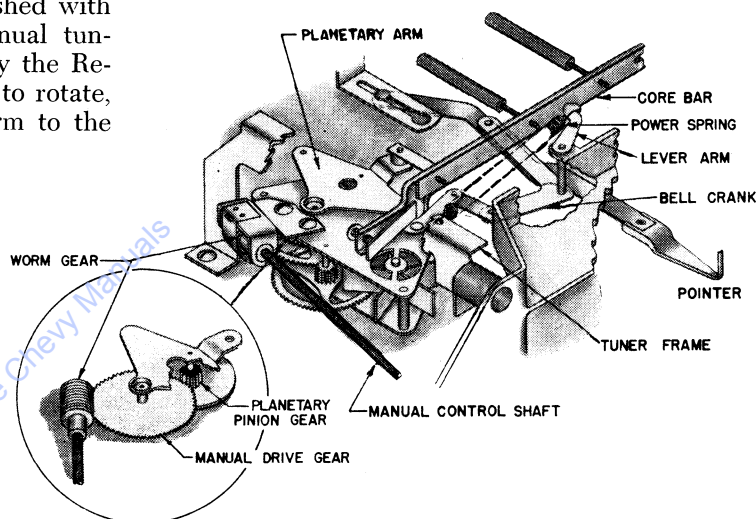

Fig. 5
## Section 3—Manual Tuning Gear Operation (See Fig. 5)
## Section 4—Pointer and Core Bar Linkage (See Fig. 5)
The Ratchet Pawl and Wheel are used so that the Solenoid can cock the power springs without running the entire gear train in the reverse direction during the return sweep. Notice that the Ratchet also is used when the dial pointer has reached the high end of the band while tuning manually. When the Planetary Arm has reached the end of its tuning arc, the planetary pinion tends to be rotated by the Manual Drive Gear (see Fig. 5) and this turns the Ratchet Wheel out of the Pawl and allows the pinion gear to turn freely without exerting further force on the Planetary
- D. Spring loaded dial pointer scans dial. (Fig. 5)